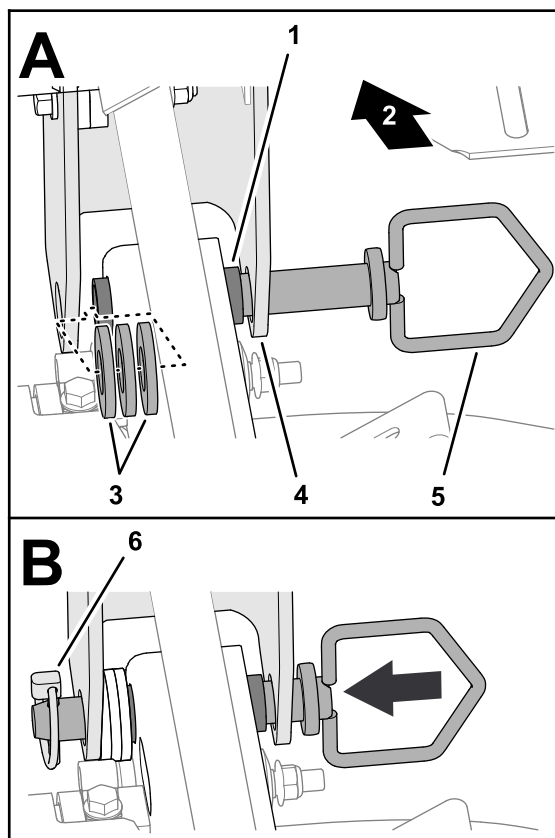

Figure 4
2. Align the holes in the pivot brackets of the rear cross member with the bed-pivot tubes in the frame rail of the machine and partially insert the 2 lynch pins through the brackets and tubes (Figure 4).
- Insert washers (1-5/8 x 3/4 inches) as needed, between the pivot brackets and the bed-pivot tubes to center the rear cross member to the frame rails and fill the gaps (Figure 4).
- Move the lynch pins outward and secure them with the 2 hitch pin (Figure 4).